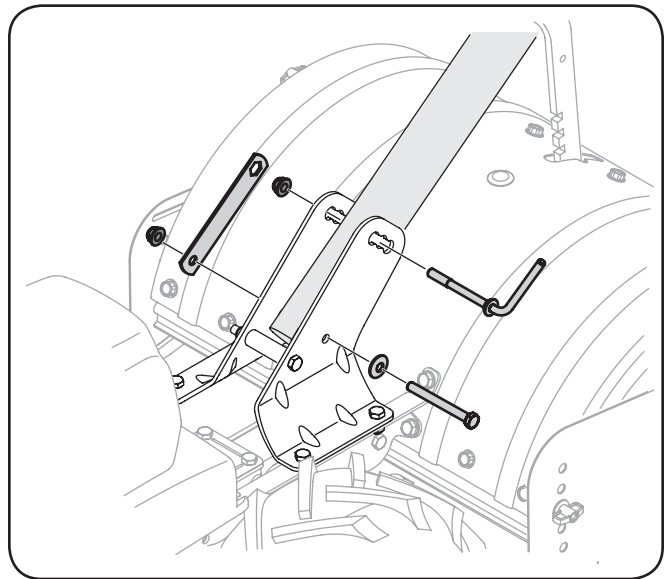

Figure 3-1
3. Install the handle-crank adjustment rod into the top hole of the mounting bracket from the left hand side of the handle assembly, secure with the other flange lock nut previously removed. Fit the hex end of the retainer bracket over the flange lock nut. See Fig. 3-1.